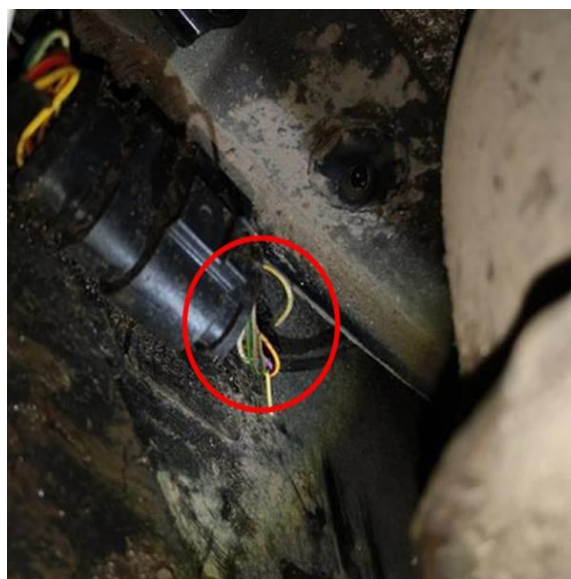

Figure 1. Location to inspect T14m for damage.
1. Inspect connector T14m and its circuitry at the left rear bumper connector station TSFHL (Figures 1 and 2).